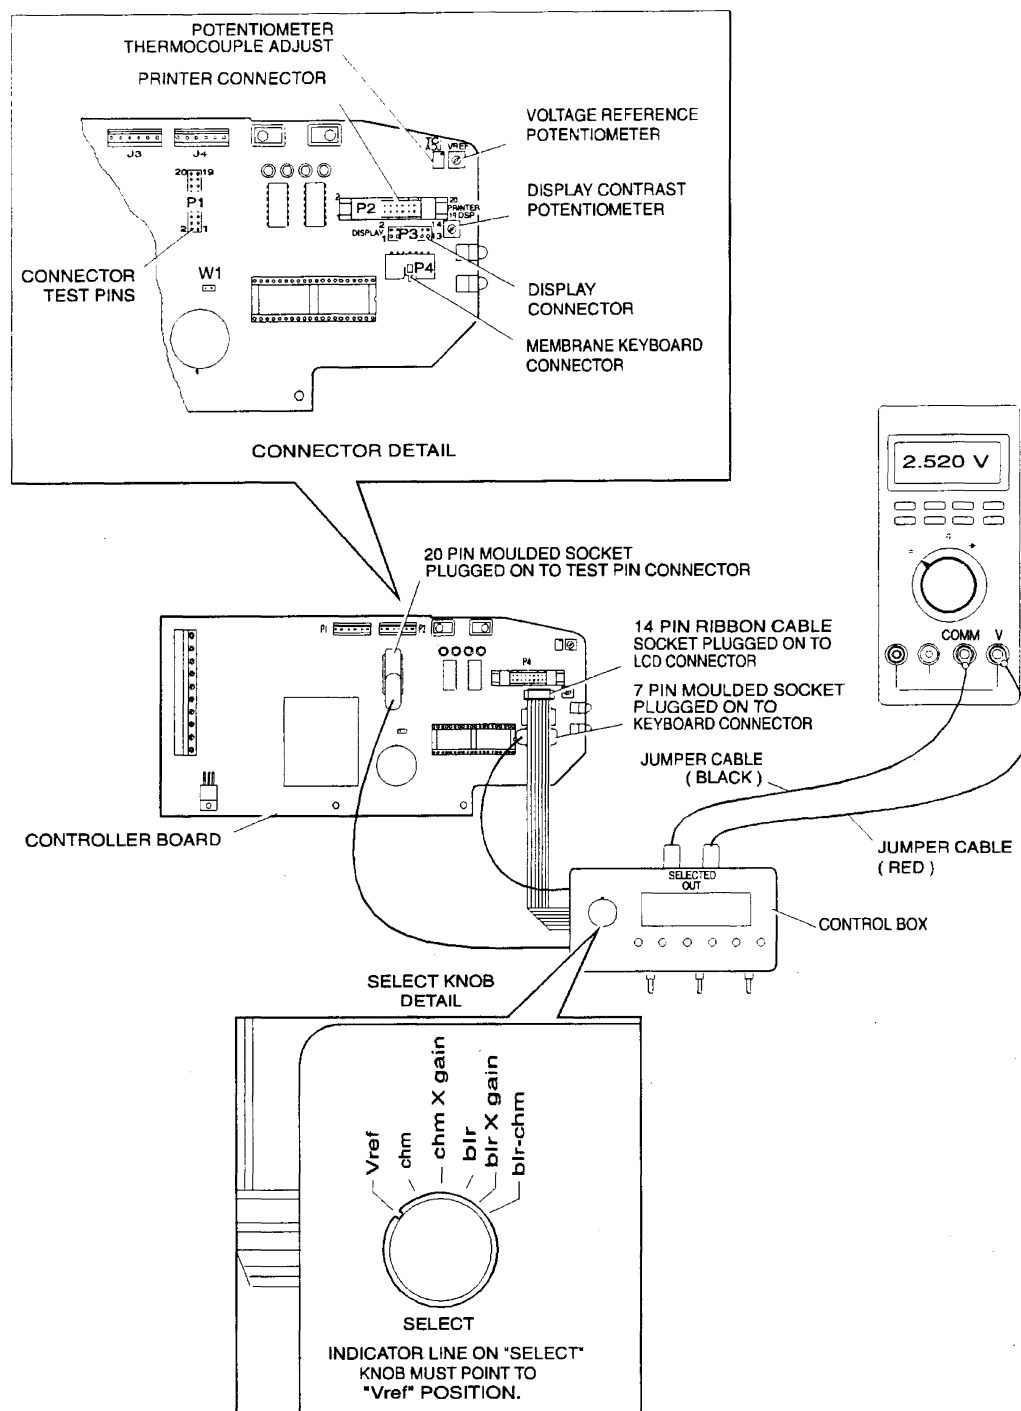

Figure 2
3. Set the control box SELECT knob to **Vref** and connect a voltmeter as shown in Figure 2.